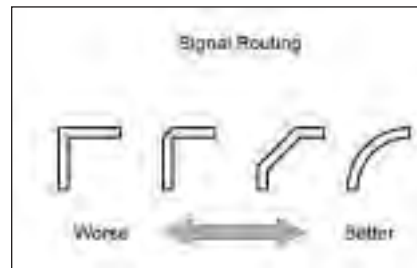

Figure 6
- High-speed signal routing for any logic family avoids sharp trace direction changes. Any rapid change causes a discontinuity, which results in a proportion of the signal being reflected back towards the source. Curved traces are ideal, but more typically 45° changes are used. If using right-angled changes, an angled chamfer offers improvement (see Figure 6).